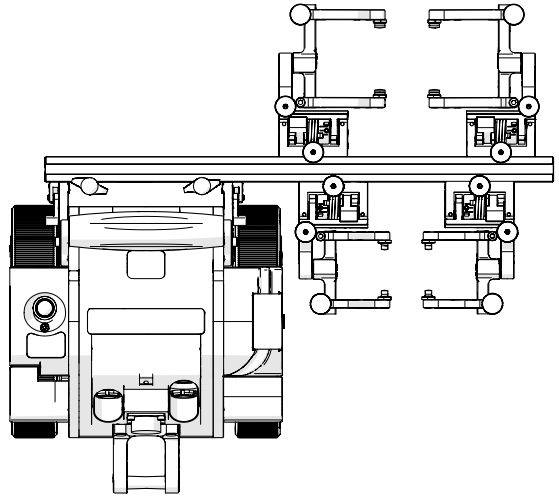

Fig. 163 - Assemble appropriate configuration
1. Assemble the appropriate configuration to the frame bar (see “Configurations” on page 26) and mount to the crawler (Fig. 163).